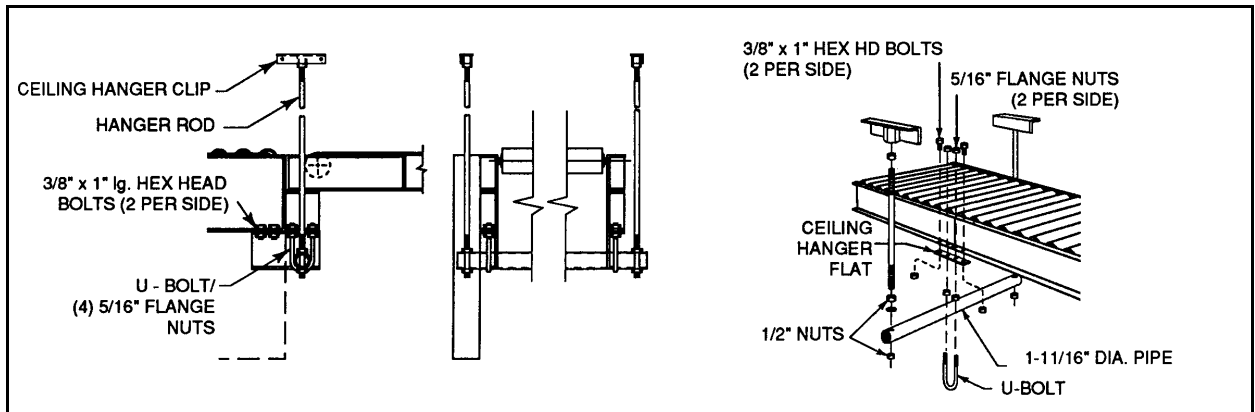

Figure G.19 – End Drive/Ceiling Hanger w/Offset Cross Pipe Figure G.20
Step 1. Mount the floor supports (or ceiling hangers) to the terminal ends and curve section. For ceiling hangers, see Figure G.19 and Figure G.20.
- Step 2. Mount the floor supports (or ceiling hangers) to the terminal ends, curve sections and power transfer unit. For additional information on ceiling hangers, see Figure G.14, Figure G.15, Figure G.19 and Figure G.20.